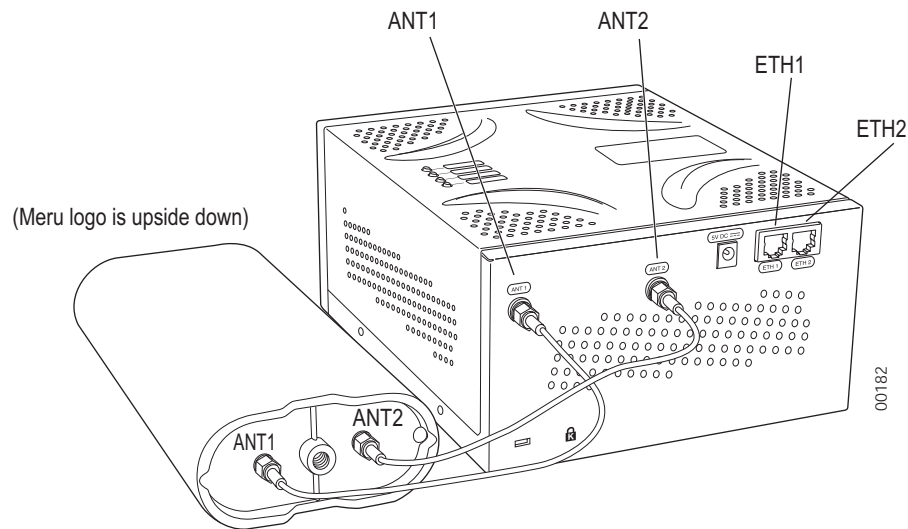
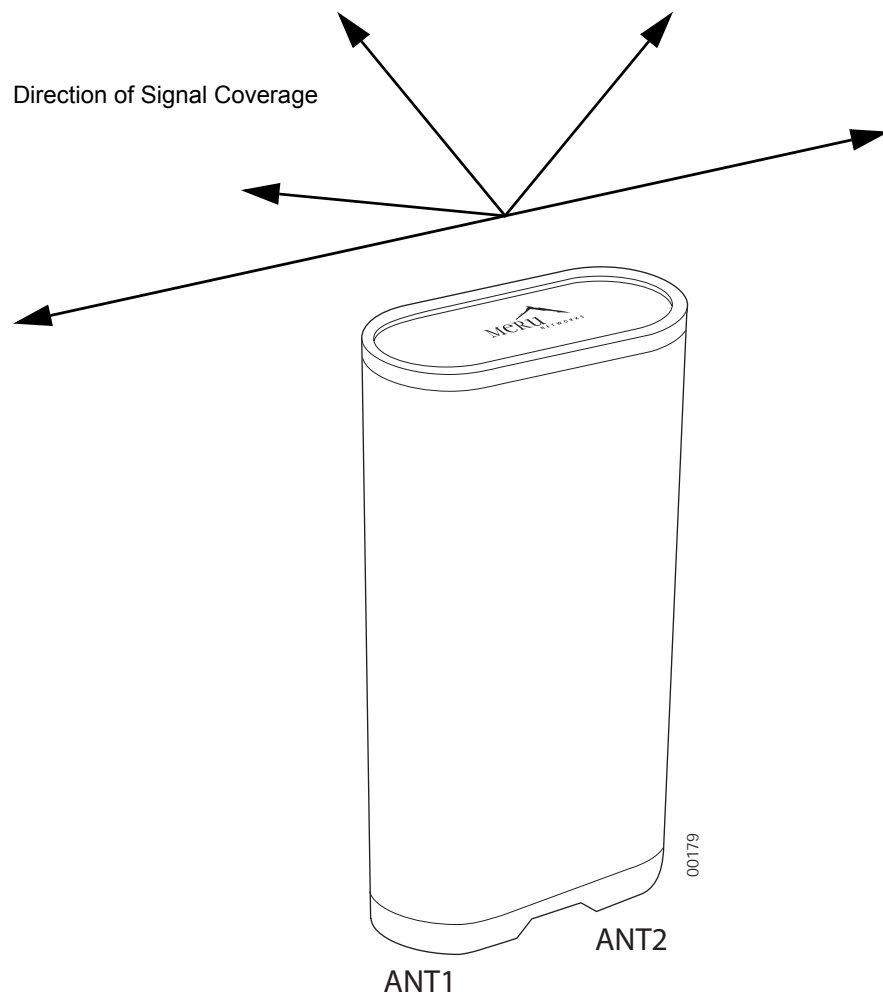

Figure 8: RS4000 with Antenna Attached
Figure 15: RS4000 180° Directional Antenna
9. On the RS4000, attach the two antenna cables to the SMA antenna connectors labeled **ANT1** and **ANT2** on the top panel of the RS4000 (see Figure 8) by turning the cable ends clockwise until tight.
8. On the RS4000, attach the two antenna cables to the SMA antenna connectors labeled **ANT1** and **ANT2** on the top panel of the RS4000 (see Figure 8) by turning the cable ends clockwise until tight.
11. On the RS4000, attach the two antenna cables to the SMA antenna connectors labeled **ANT1** and **ANT2** on the top panel of the RS4000 (see Figure 8) by turning the cable ends clockwise until tight.
The RS4000 antenna uses two RF cables (3-foot cables are supplied) to connect to the SMA connectors on the top panel of the RS4000 (see Figure 8). The RF cables should be attached to the RS4000 as a result of the procedures described in one of the previous installation procedures.
2. Connect the RF antenna wires from the RS4000 to the SMA connectors on the top of the antenna, using Figure 8 or Figure 15 for orientation.
4. Attach the two antenna cables to the SMA antenna connectors labeled **ANT1** and **ANT2** on the top panel of the RS4000 (see Figure 8) by turning the cable ends clockwise until tight.
9. Attach the antenna cables to the antenna (see Figure 15).